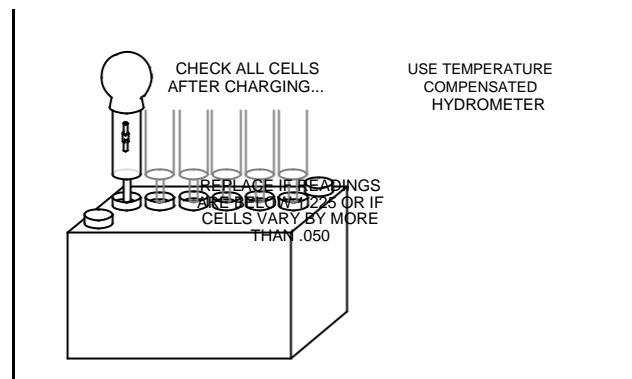

Fig. 723 – CHECKING 12V BATTERY CELLS
3. With battery fully charged, check specific gravity readings of each cell with a Battery Hydrometer and record readings, Fig. 723. All readings should be above 1.250 (compensating for temperature). If specific gravity readings varied .050 or if ALL cells read less than 1.225, replace battery.